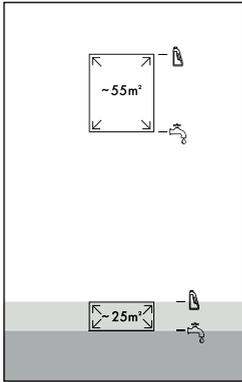

Fig. 8
- ◆ For small areas  (up to 25 m²), fill the fresh water tank **11** with tap water or distilled water up to the first fill level marking  (see fig. 8).
- ◆ For small areas  (up to 25 m²), fill the fresh water tank **11** with cleaning solution up to the second fill level marking  (see fig. 8).